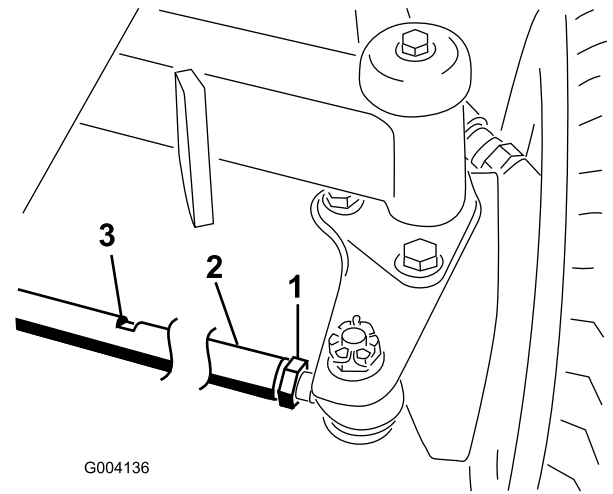

Figure 58
2. Loosen the jam nut on each end of the tie rod (Figure 58).